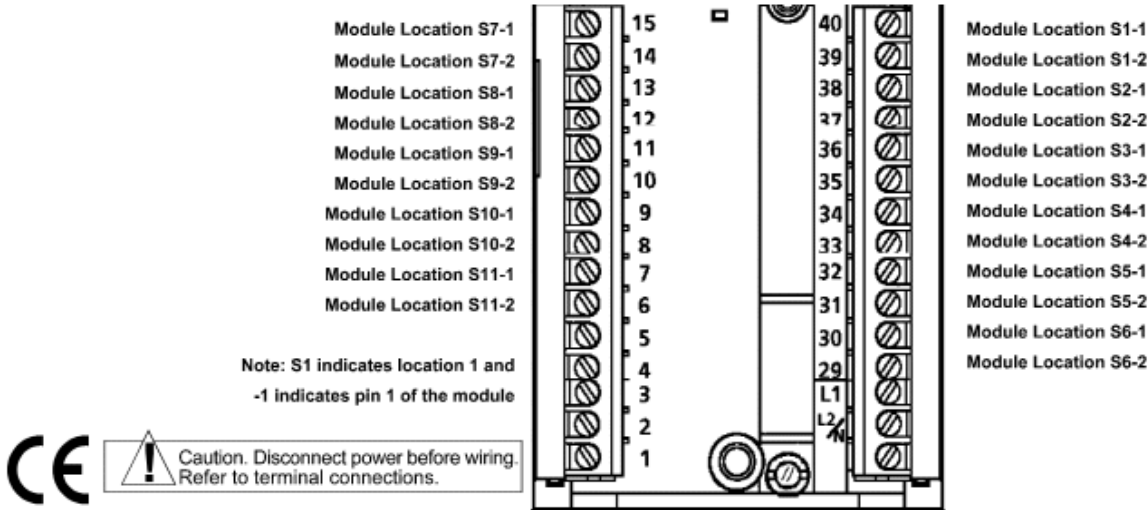

Figure 4-1. Terminal Identifications for Modular I/O
The wiring connections described in this section are made with the controller installed in its operating location and with the power off. All connection terminals are located under a cover on the back of the instrument housing. Figure 4-1 shows the modular connection terminals with the cover removed.
1. The diagrams for single width modules show connections to a sample location (usually location 1). The terminal numbers for the actual location being used must be determined by matching pin numbers 1 and 2 in each diagram to the terminal numbers for the selected location as shown in Figure 4-1.
Note: For other module locations, see Figure 4-1 for terminal numbers.